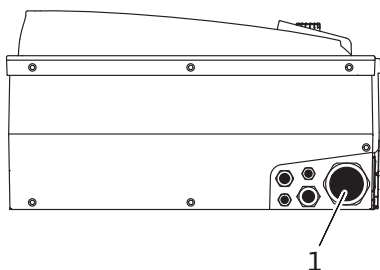

Fig. 22: M40 threaded cable gland
- The power cable is to be fed through the M40 threaded cable gland (Fig. 22, Item 1).